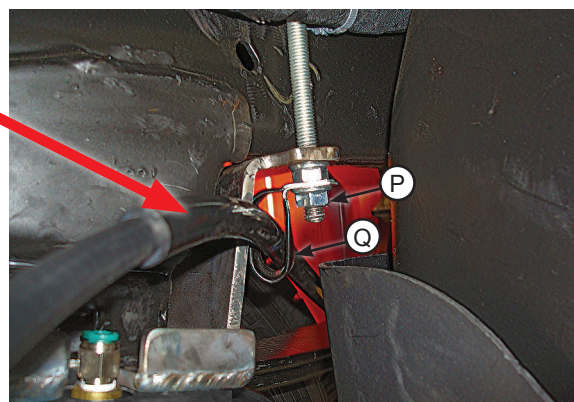

fig. 16
- Attach the emergency brake cable removed in the "Getting Started" section with the emergency brake cable bracket (Q) and 3/8" serrated flange lock nut (P) (Fig. 16). Use the inside forward leg of the U-bolt on the driver's (left) side for the attachment. Tighten securely.